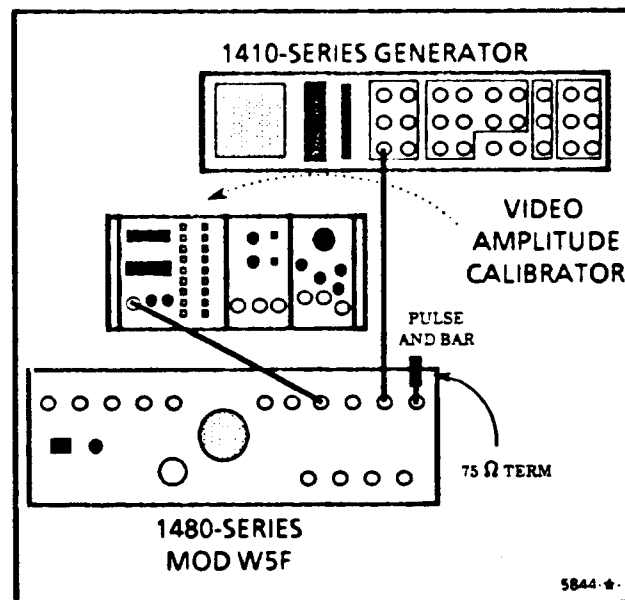

Fig. 3-6. Connecting the *T/2 pulse and bar signal* to adjust Off Screen Recovery.
- a. Connect a *T/2 pulse and bar signal* from the Television Signal Generator and the VAC to the 1480-Series VIDEO INPUT A, as shown in Fig. 3-6.
Change Fig. 3-6 as shown.